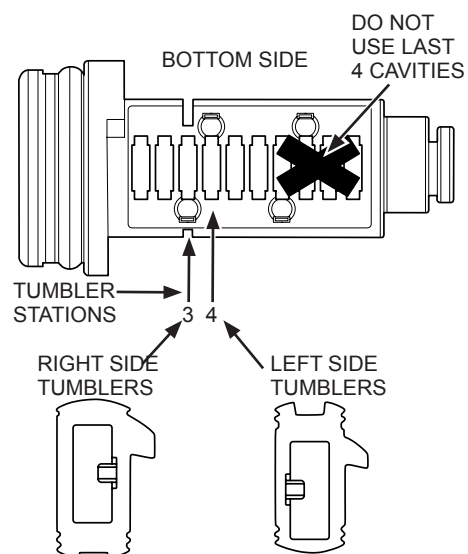

FIGURE 4
4. While holding down the Tumblers inside the cylinder, turn the Cylinder (L) and repeat steps for stations 3 and 4. (Refer to Figure 4).